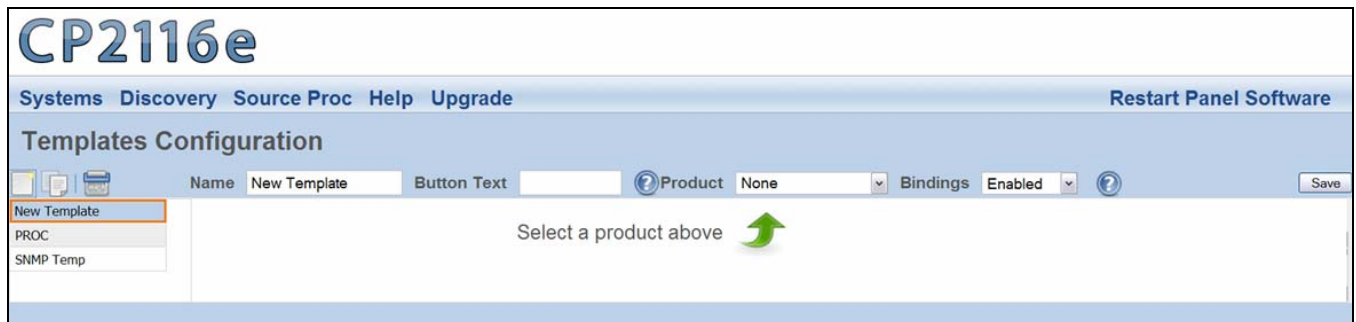

Figure 4-9: New Template Page
1. Navigate to the **Service Templates** control menu and click on the **New Template** button or select the **Create a New One** link. A new screen, as illustrated in Figure 4-9 will open.